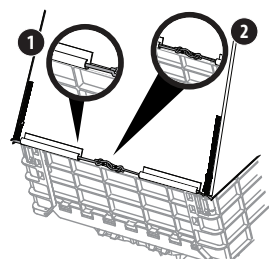

Figure 16
- Stretch bungee cords located at back right and left bottom of mesh cover horizontally towards center until attached carabiners meet. Slide bungee cords into channels attached to bottom of mesh cover (1) and click carabiners together (2), as shown in Figure 16.